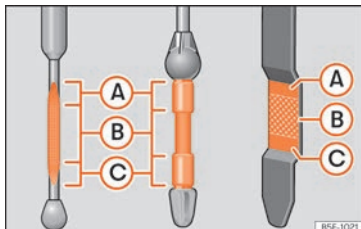

Fig. 313 Engine oil dipstick.
- Then pull it out once more and check the oil level **»» Fig. 313**. Top up with engine oil if necessary.
- When the oil level reaches at least zone »» **Fig. 313 B**, unscrew the engine oil filler cap carefully »» **ⓘ**.
If the oil level is above area »» **Fig. 313 A**, do not start the engine. This could result in
The oil level must never be above zone »» **Fig. 313 A**. Otherwise oil can be drawn in through the crankcase breather and leak into the atmosphere via the exhaust system.